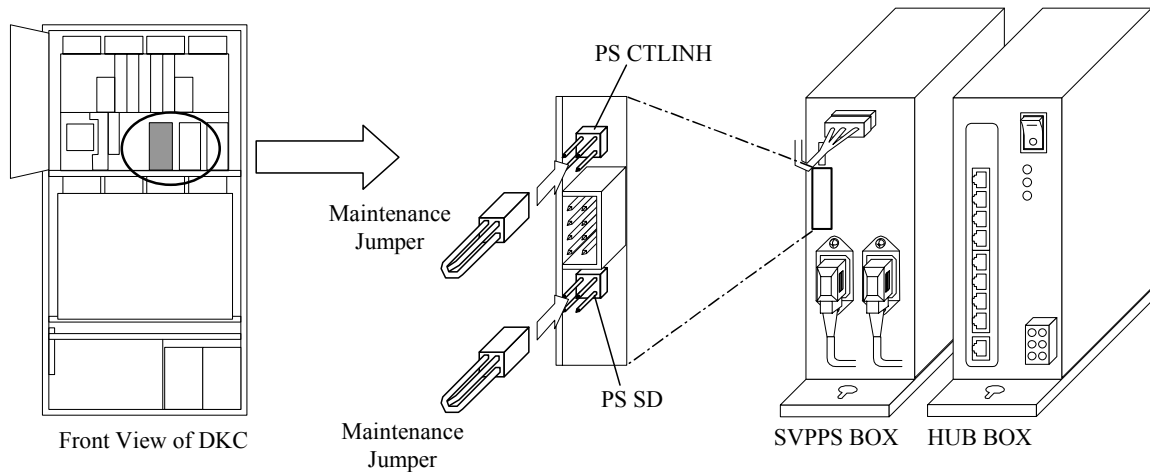

Fig. T7.1-4 Jumper settings of SVPPS BOX
- Remove the maintenance jumper of the PS SD on the SVPPS BOX. (See Fig. T7.1-4.)
Insert the maintenance jumper into the PS CTLINH on the SVPPS BOX. (See Fig. T7.1-4.)
Insert the maintenance jumper into PS SD on the SVPPS BOX. (See Fig. T7.1-4 [REP03-480].)